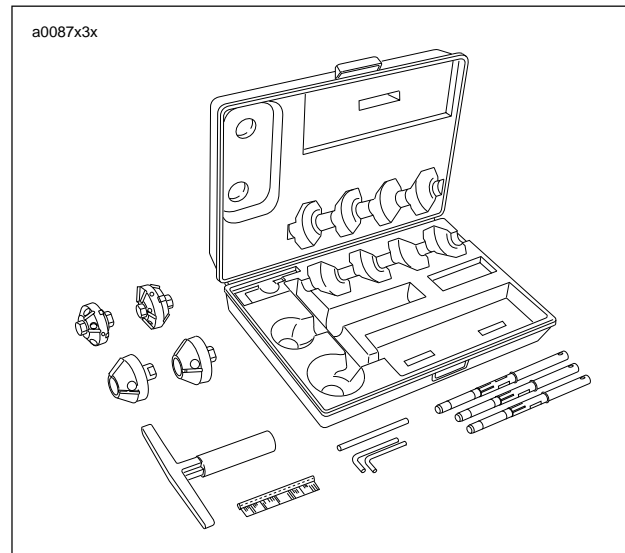

Figure 3-58. Valve Seat Cutter
1. See Figure 3-58. Cut 46° (or grind 45°) valve seat angle first. Use cutting oil to avoid chatter marks. Cut or grind only enough to clean up the seat.